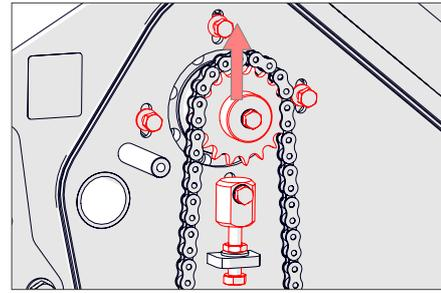

Fig. 15G - Tighten the belt and tensioner block locking nut.
7. Slide the entire motor assembly up until the chain/belt is taut. Tighten the tensioner block lock nut [17 mm spanner] (Fig. 15G).